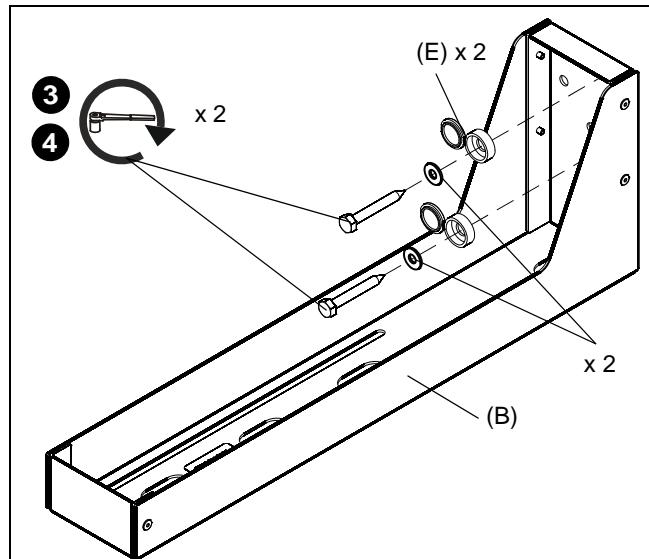

Figure 2
2. Determine location for wall bracket (B) and locate wall stud to which bracket will be attached.
3. Attach wall bracket (B) to stud through upper hole in wall bracket using 5/16" x 2" long lag bolts and 5/16" flat washers (not included) through hardware covers (E). (See Figure 2)
4. Place second fastener through lower slot in wall bracket (B). (See Figure 2)
5. Adjust wall bracket (B) side to side until it is level and tighten fasteners.
6. Close hardware covers (E).